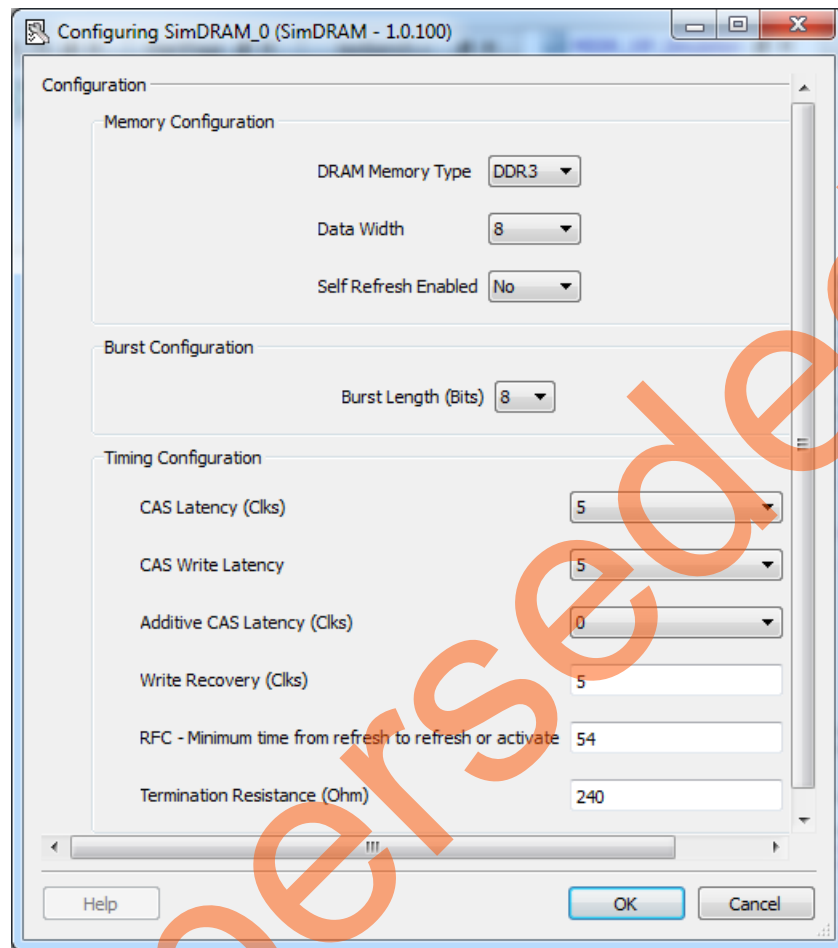

Figure 24 • Configuring SimDRAM
4. Enter the Generic DDR Memory Simulation model configuration details as shown in Figure 24. The example design uses two instances of SimDRAM (VIP model) with the device width size of eight.